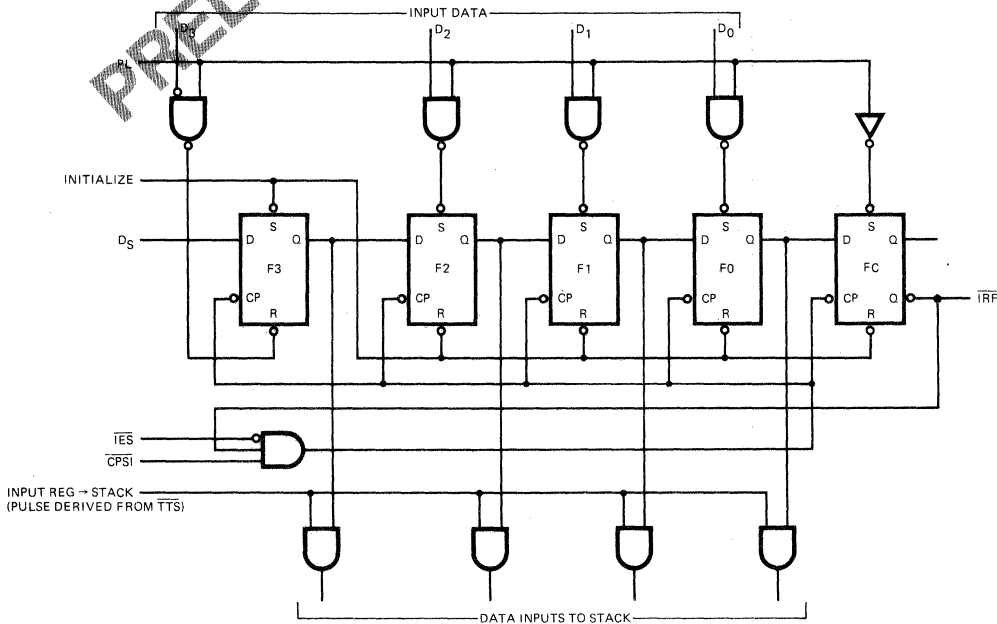

Fig. 1
Figure 1 is a conceptual logic diagram of the input section. As described later, this 5-bit register is initialized by setting the F3 flip-flop and resetting the other flip-flops. The \bar{Q} output of the last flip-flop (FC) is brought out as the "Input Register Full" output (IRF). After initialization this output is HIGH.